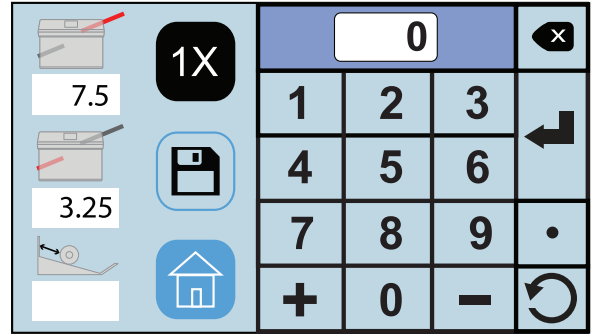

Fig. 25
5. Next set the automatic outfeed stackers. There are 10 stacker positions available. Select the one that best matches the size of the folded document. Using the touch pad key in the stacker position (Fig. 25), key in 0 - 9 based on the chart below.